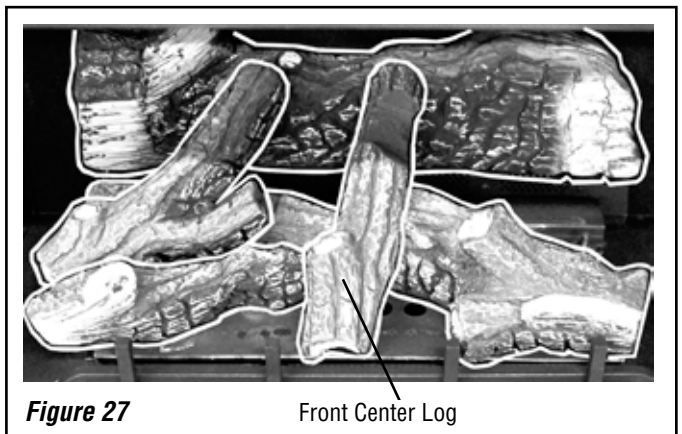

Figure 27 Front Center Log
6. Install the Front Center Log over the Front Right Log. The front of log will rest on the burner and the back of log will rest on rear log as shown in **Figure 27**.